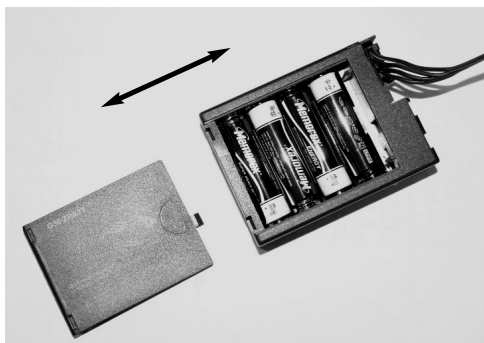

Fig. 17c
3) Place the double sided adhesive tape to the underside of the receiver unit. Slide back the cover and insert the 4x AA/LR6 1.5v batteries into unit, observing the correct polarity as marked on the unit. Re-place cover. Fig. 17c.